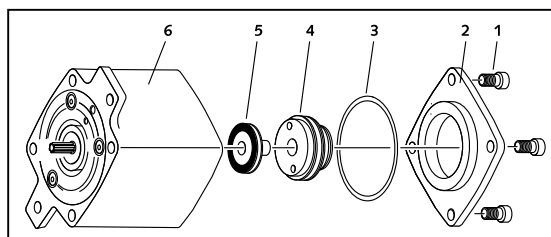

Figure 14: Remove the brake assembly from the housing and exchange the brake disc if required.
- ▶ One at a time, place the spacer 4, the bearing disc 5, the plate spring 6 and the cover 7 over the end of the rotor (see figure 14).